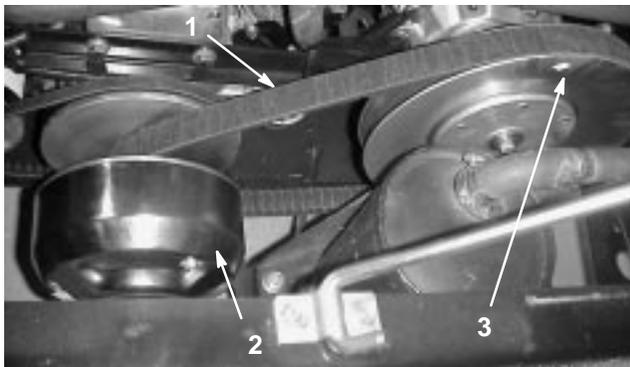

Figure 34
- Rotate and route the belt over the secondary clutch (Fig. 34).
- Remove the belt from the primary clutch (Fig. 34).